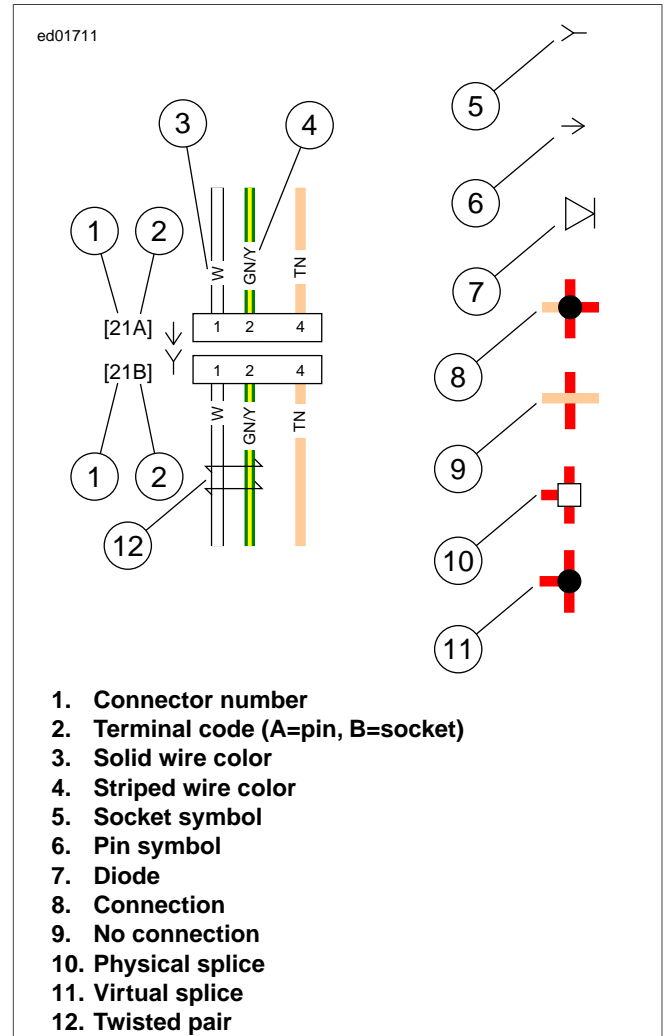

Figure B-17. Connector/Wiring Diagram Symbols (typical)
For Solid Color Wires: See Figure B-17. The alpha code identifies wire color (3).
See Figure B-17. On wiring diagrams and in service/repair instructions, connectors are identified by a number in brackets (1). The letter (2) inside the brackets identifies whether the housing is a socket or pin housing.